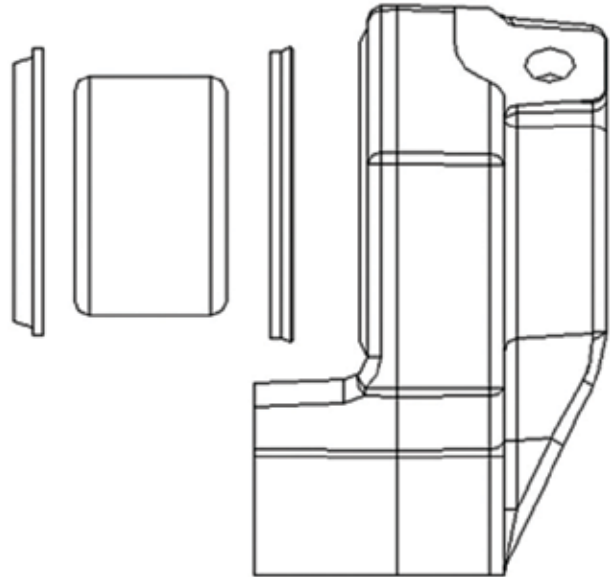

Figure 4
Keep the U seal and rod wiper grooves free of debris. Coat the new U seal (7) and rod wiper (8) with a compatible oil, and place them carefully into their respective grooves. Also, coat the piston (2) wall with compatible oil. Make sure the seal and rod wiper are installed with the proper orientation. See Figure 4.